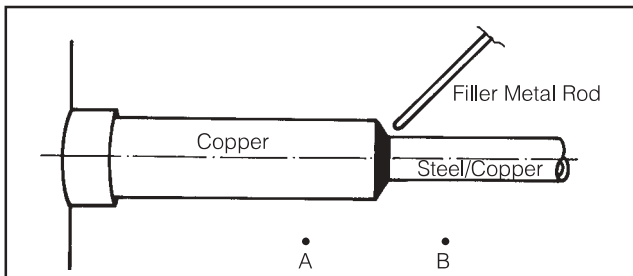

FIG. 12
3.2.3.2 Heat male and female tubes uniformly up to the ideal brazing temperature moving the flame from point A to point B and vice versa. (fig. 12)